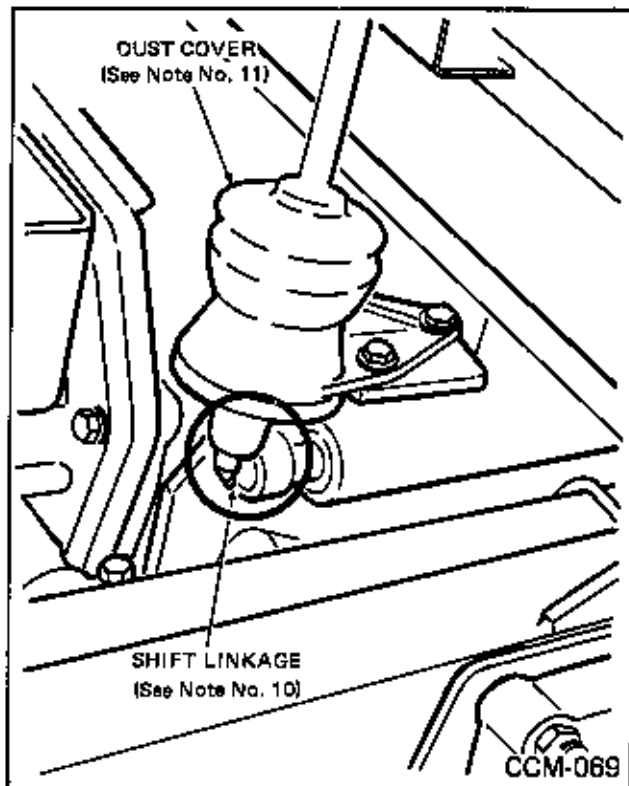

Fig. 64 Shift Lever Ball Pivot
Remove the engine compartment doors for access to the shift lever ball pivot. Remove shift lever dust cover and lubricate ball pivot with two (2) ounces of Lubriplate (Clark specifications MS-45) every 3,000 miles. The shift lever linkage grease fitting is accessible from beneath the vehicle and should be lubricated per the instructions in Note No. 10 (Fig. 64)